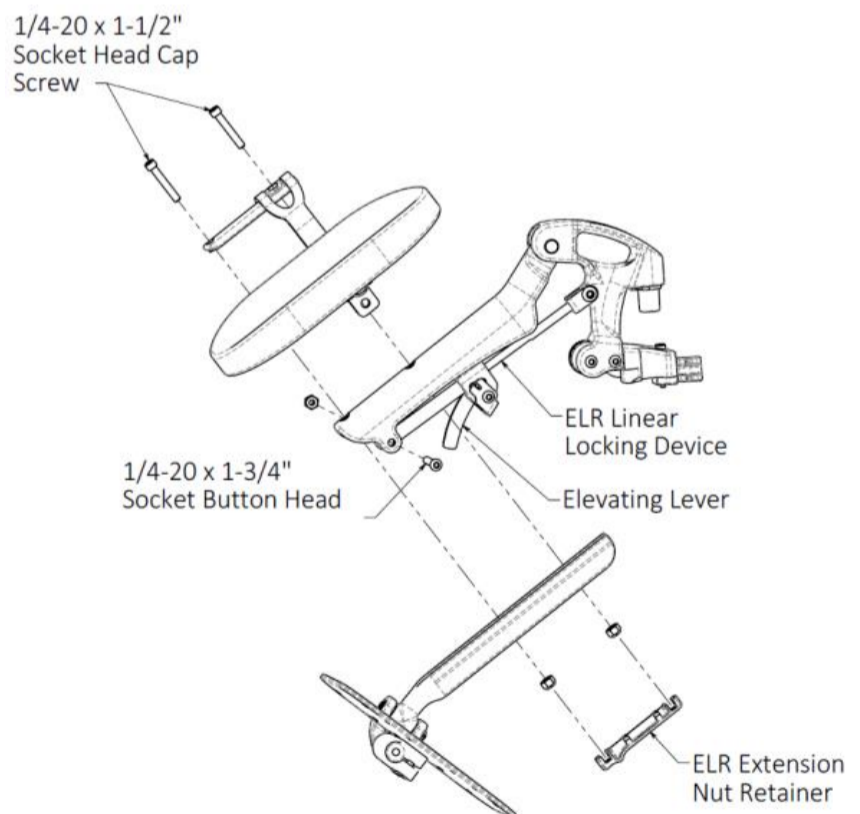

Figure 14.16: Elevating Legrest Footrest Height adjustment
- Loosen and remove the $\frac{1}{4}$ -20 x 1-3/4" Socket Button Head which holds the ELR's linear locking device, shown in figure 14.16.